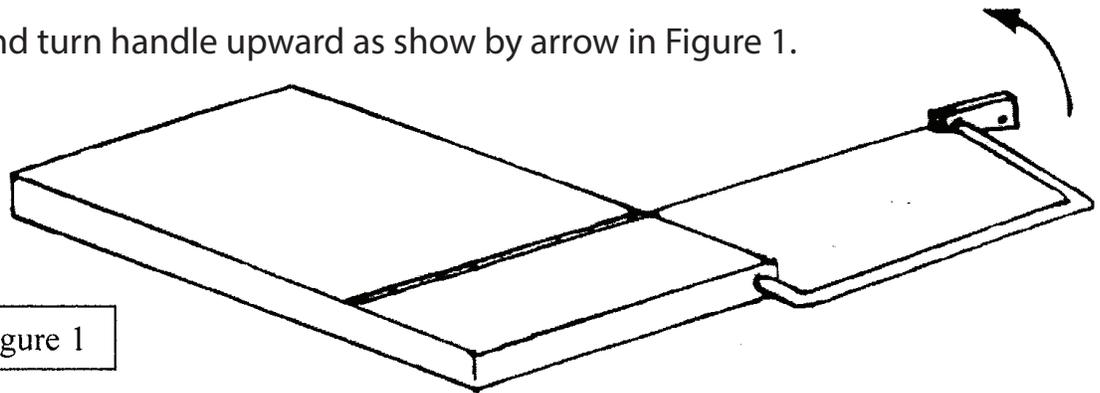

Figure 1
1. Position slicer on flat surface as show in Figure 1.
2. Loosen set screw and turn handle upward as show by arrow in Figure 1.